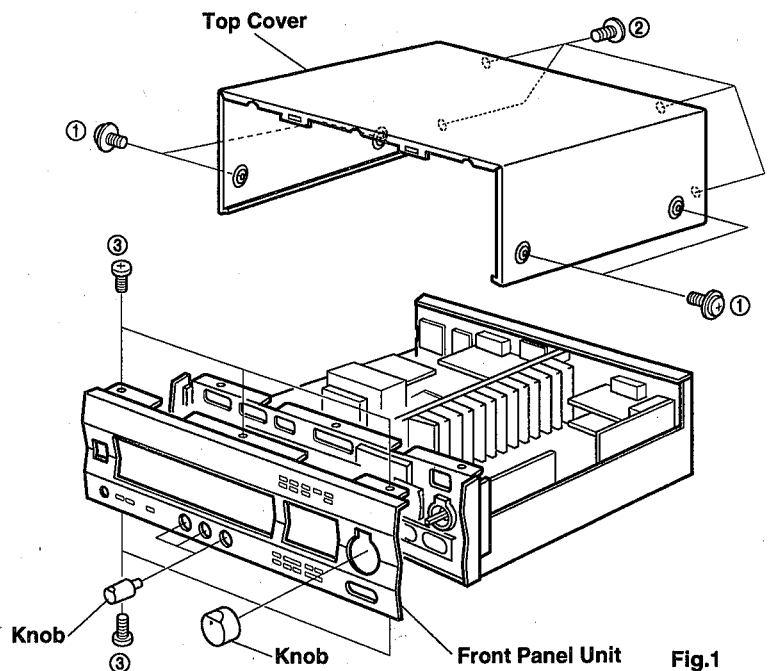

Fig.1
Remove 4 screws (①) and 3 screws (②) in Fig. 1.
c. Remove 6 screws (③) in Fig. 1.